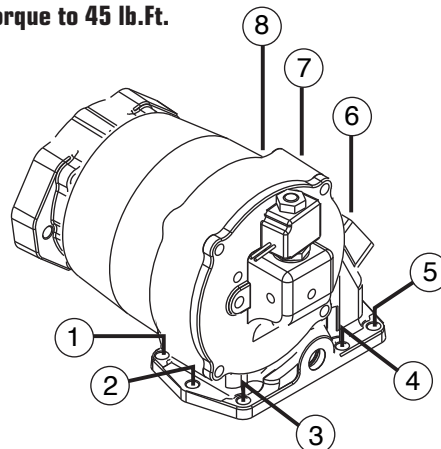

Figure 1. - CAPSCREW PLACEMENT
The two(2) 25mm long capscrews are to be used in positions 1 and 3 as shown in diagram (Fig. 1). The six(6) 30mm long capscrews and six(6) special lock washers are used in positions 2, 4, 5, 6, 7, & 8.